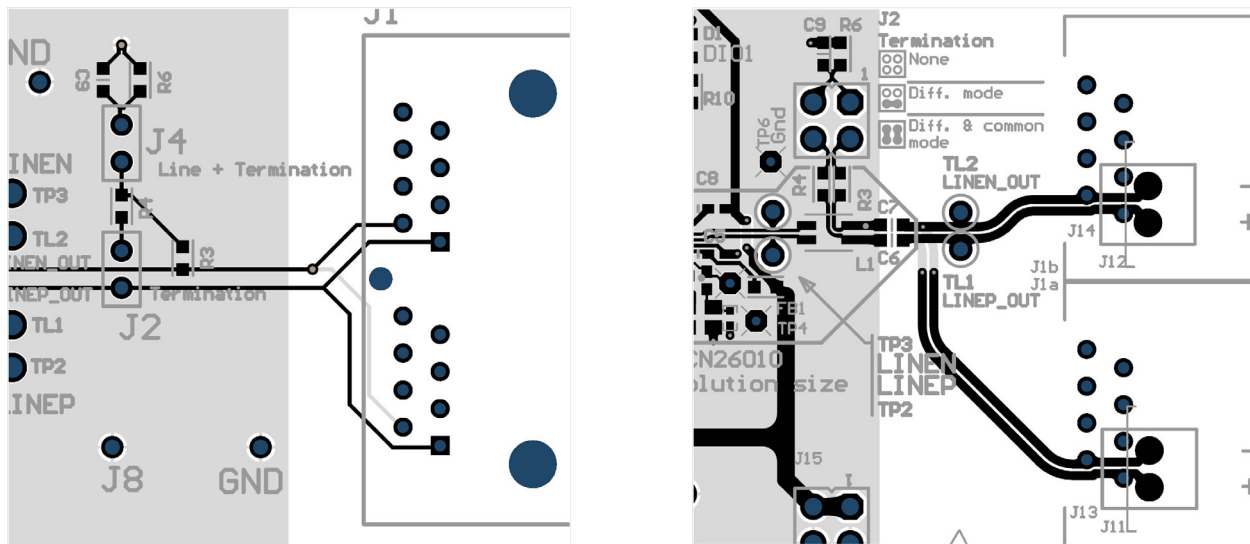

Figure 15. Layout of the SPE Pairs in the First (left) and Second (right) Revision of the EVB
The second revision of the evaluation board is significantly better in this regard (Figure 15).
1. The routing of the SPE pairs was improved (Figure 15).